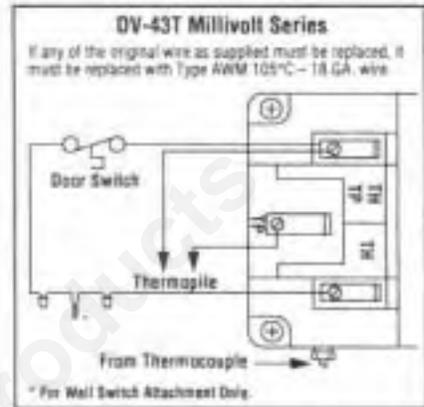
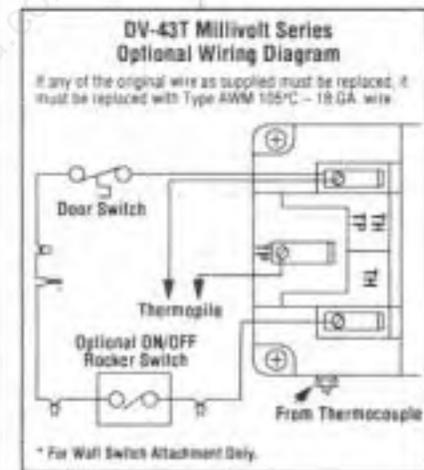

Figure 32
Figure 33
**Step 6. Installing the Optional Remote Wall Switch** – The standard DV-43T millivolt system comes from the factory wired as shown in Figure 32. Select a convenient location for the remote wall switch and connect the wiring to the appliance (Figure 33).